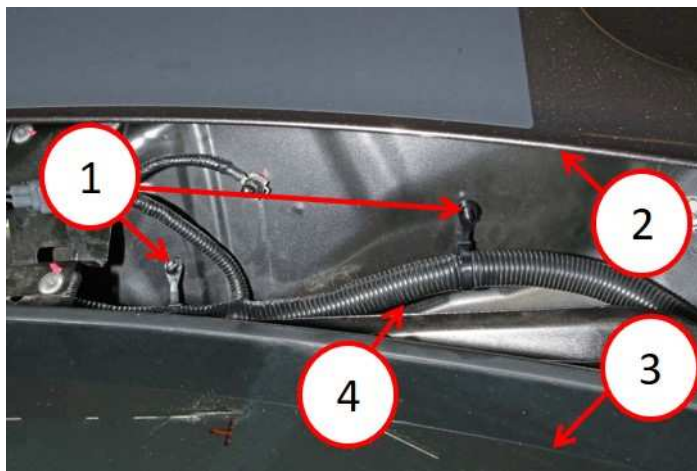

Fig. 4
4. Install two new stud clips onto the plenum studs and fasten the headlamp wiring harness (Fig. 4) .